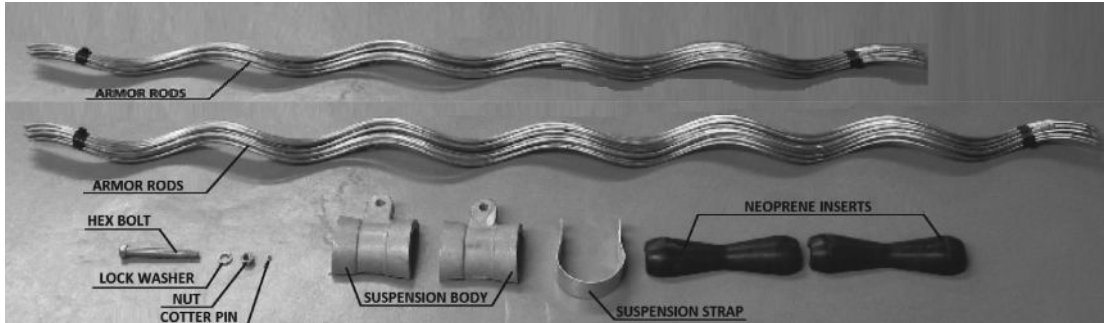

FIGURE 1: Formed Wire Suspension Components
- 1.02** The unit includes two halves of the suspension body, two Neoprene insert halves, a suspension strap, hex bolt, lock washer, nut and cotter pin, and a set of short and long armor rods for complete assembly. See *Figure 1*.